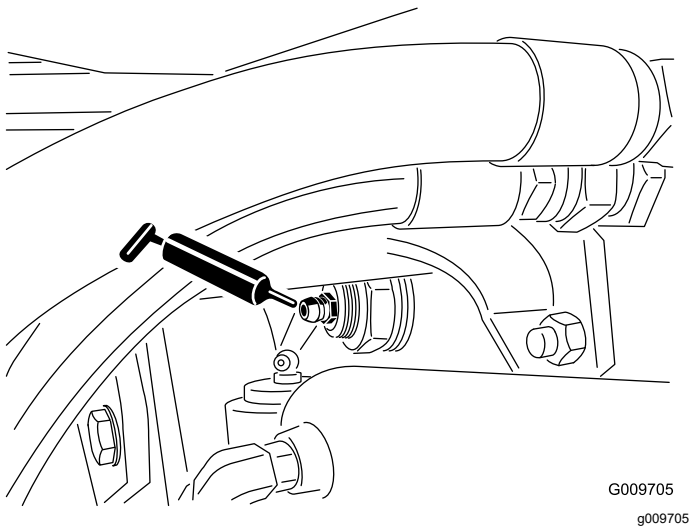

Figure 37
- Rear-axle-pivot bushings (2) as shown in Figure 37